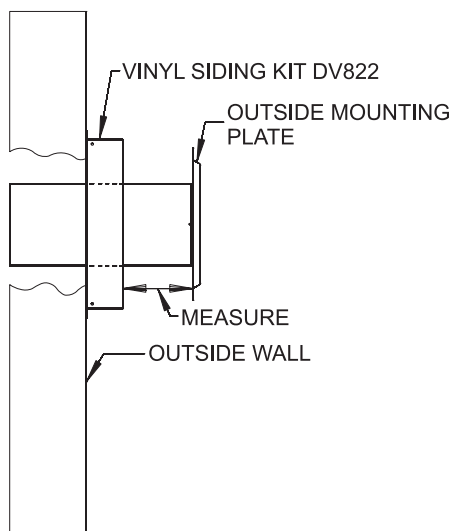

Figure 60
6. With the vinyl siding kit installed to wall (if necessary), insert the 6 5/8" (168 mm) diameter tube with outside mounting plate attached through hole in wall. Connect to collar on fireplace or rigid vent system. Measure between wall or vent cap extension and outside mounting plate. **See Figures 60 and 61.**